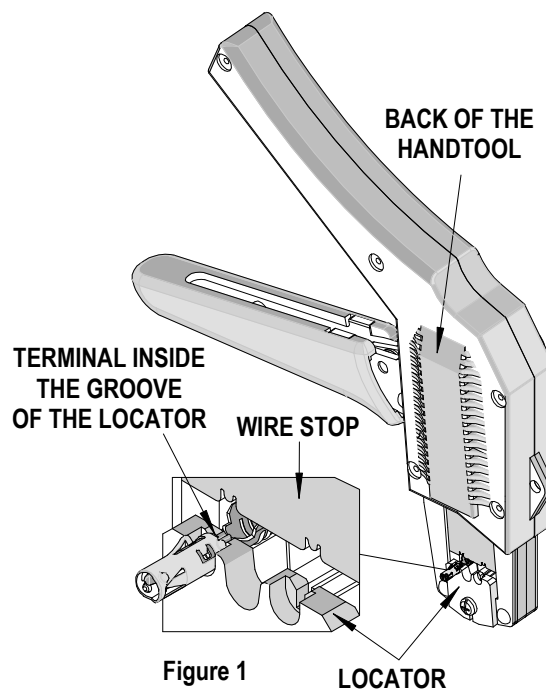

Figure 1
2. Position the terminal from the back of the hand tool up and into the proper locator opening with the crimp barrels centered over the anvils. See Figure 1. Make sure when choosing the correct nest and locator opening, it will correspond with the pocket marked with the wire size profile on the hand tool.